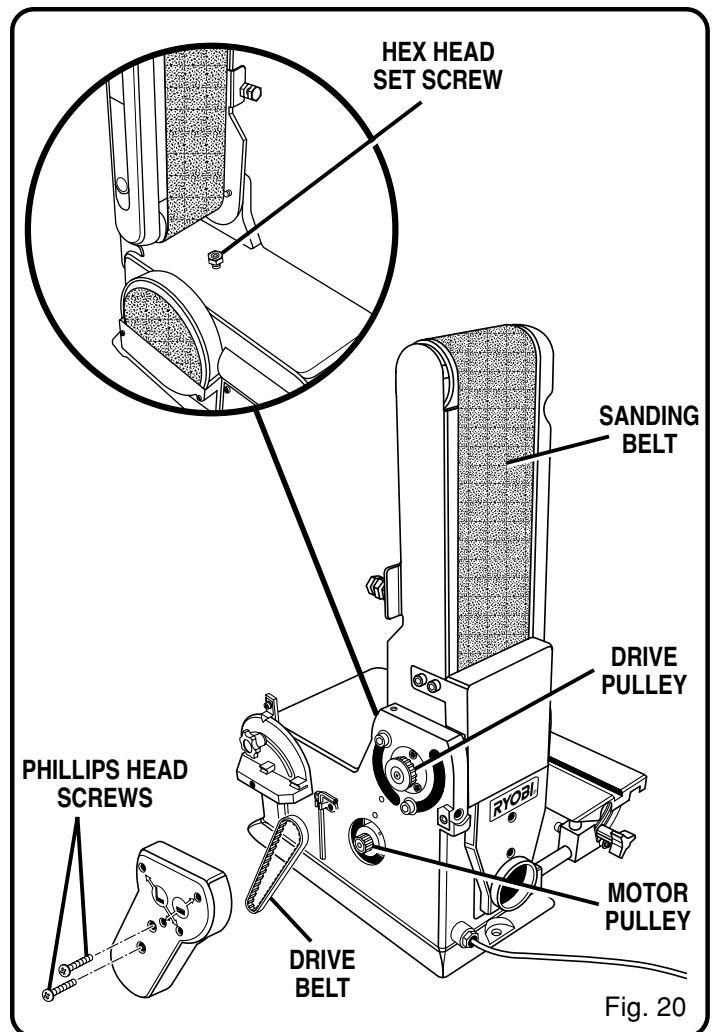

Fig. 20
See Figure 20.
- Raise sanding belt to the vertical sanding position (see Figure 20).